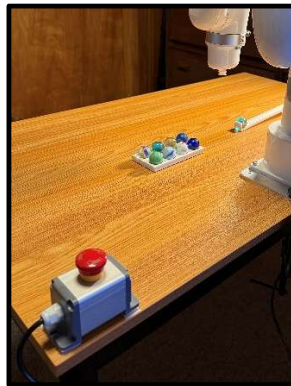

Figure 3
2. Make sure that the **Emergency Stop Button**, shown in Figure 3, is within easy reach. It might even be a good idea to have one student with his or her hand above the button when the program is started, in the event that it becomes necessary to instantly terminate all motion of ORA's arm and cancel any commands.